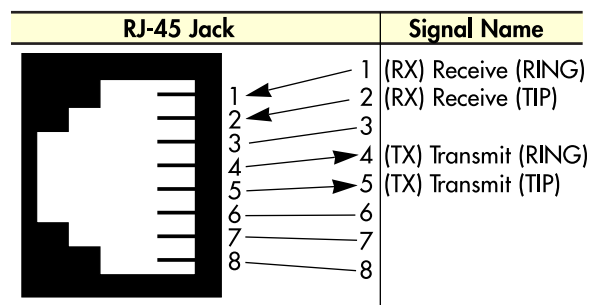

Figure 16. T1/E1/PRI RJ-48C pinout diagram
1. Refer to figure 16 for the T1/E1/PRI RJ-48C pinout diagram.